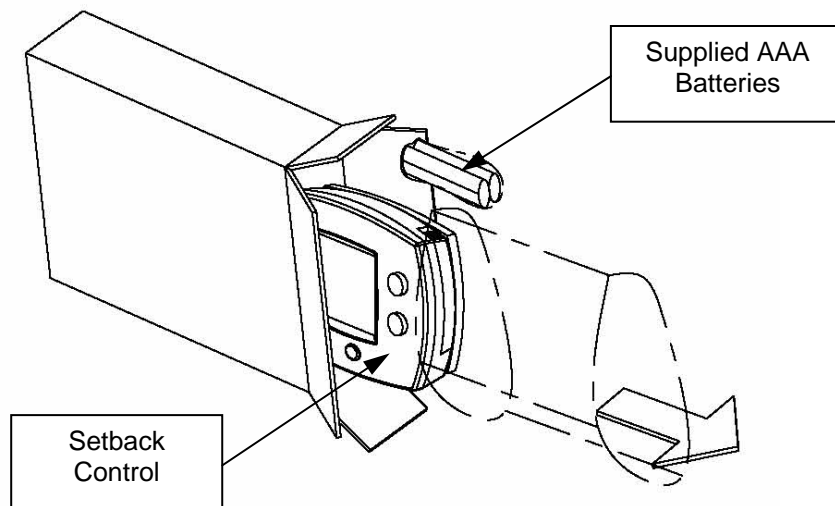

Figure 29
Step 2: Remove the Setback Control and its batteries from their packaging, as shown in Figure 29.